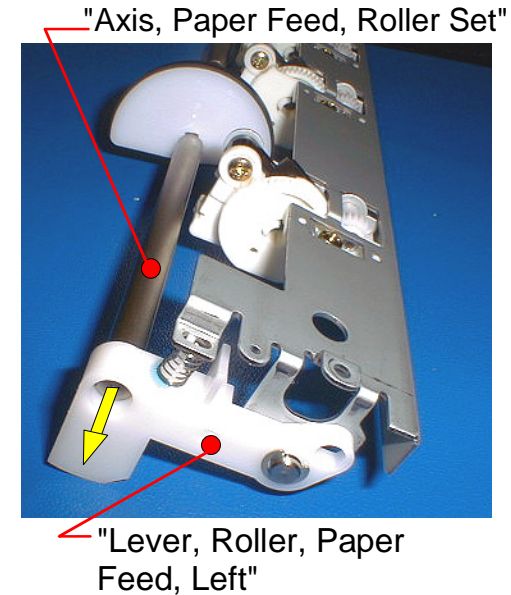

Figure 4-165. Installing left side of "Axis, Paper Feed, Roller Set"
31. Install the left edge of axis of "Axis, Paper Feed, Roller Set" to "Lever, Roller, Paper Feed, Left". Pull "Axis, Paper Feed, Roller Set" to yellow arrow direction as it is shown in figure 4-165, and hang it on "Lever, Roller, Paper Feed, Left".